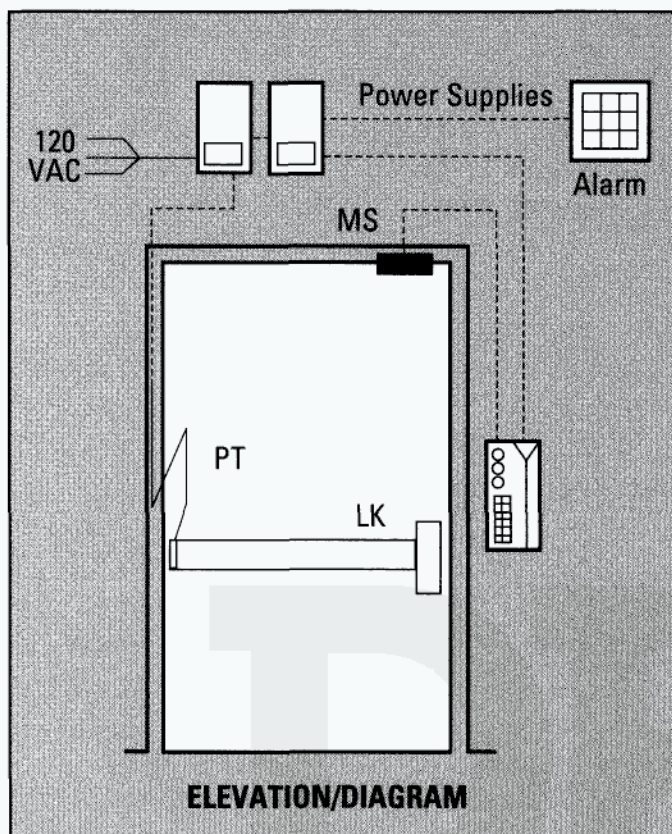

Figure 3.
### SCHEDULE EXAMPLE (for figure 3):
1. An elevation (figure 3) of the electrified products about the door and the routing of the associated wiring.